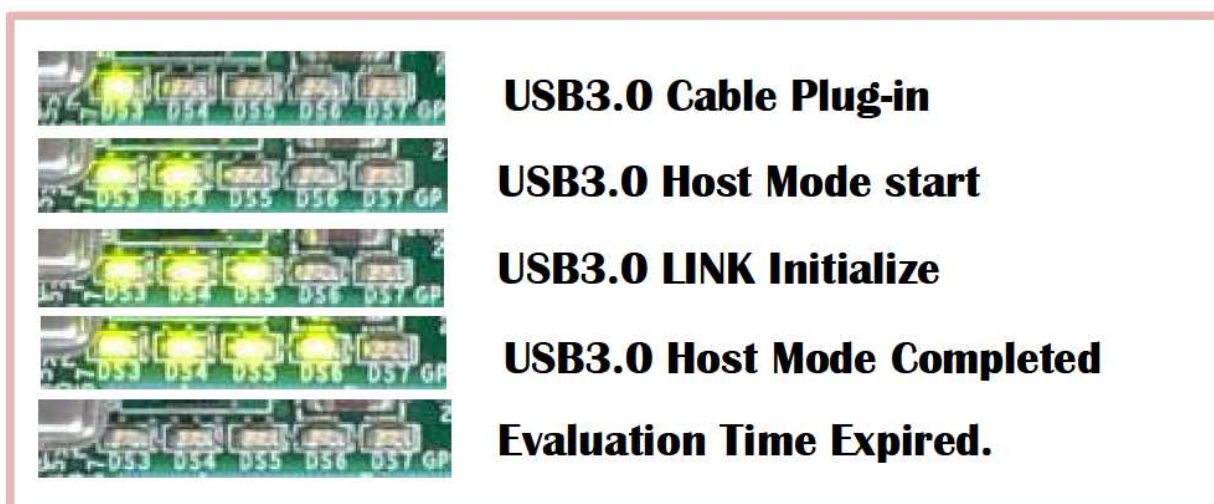

Figure 18: USB3.0 host operation LED status on SP605 board
- After bit-file download finish, check check GPIO_LED0-3 status on Xilinx board. See Table 2 for LED definition. Note that LED0 blinks and other LEDs are OFF when USB cable is unplugged. When USB cable is connected again, LED will change its state as shown in Figure 18.